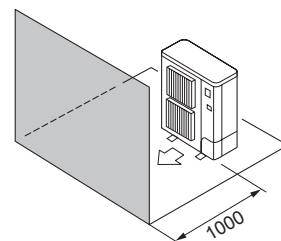

Fig. 2-9
- ④ Solo ostacoli anteriori (Fig. 2-9)